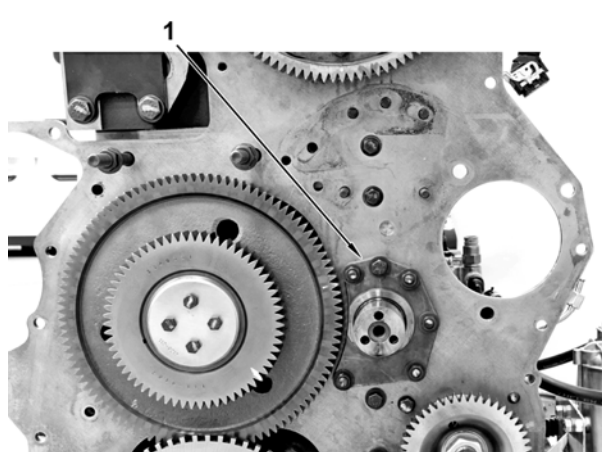

Figure 10 Fixed Idler Support
15. Remove fixed idler gear and fixed idler support (Figure 9, Item 1 and Figure 10, Item 1).